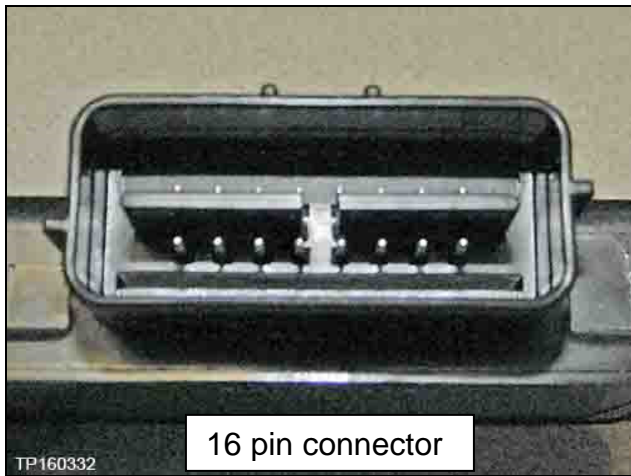

Figure B1
(1) Confirm that the number of pins of the new part are the same as the original (see Figures B1 and B2 on the next page).